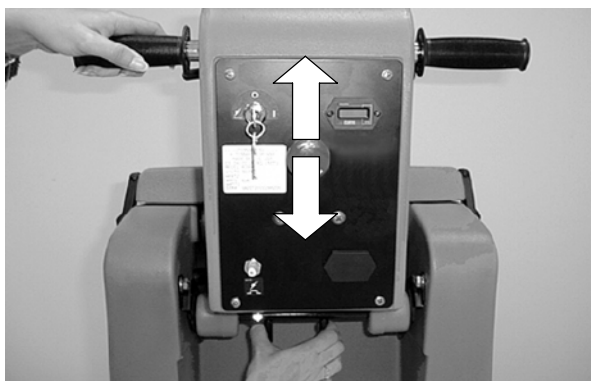

FIG. 8
1. Locate the two spring loaded levers below the console (Figure 8).
2. Squeeze the levers together and lift or lower control grips to a comfortable operating height (Figure 8).